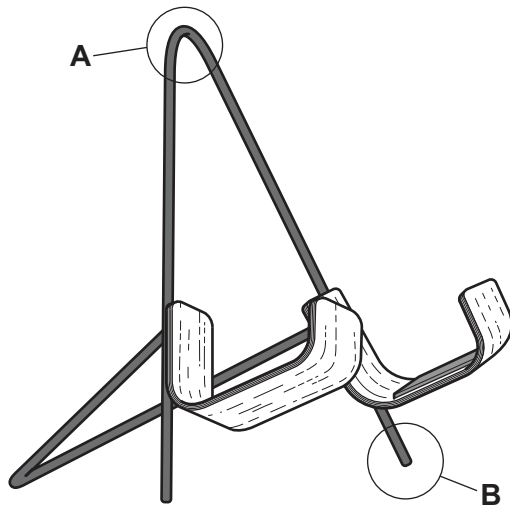

Figure 13.5
- (h) Figure 13.5 shows two areas of the guitar stand that need improvement.